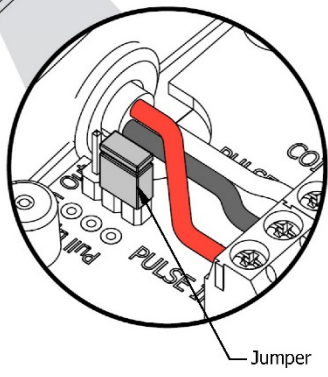

Figure 4b
When the Jumper is located on the bottom two pins, the “internal resistor” option is selected (Figure 4b).
- Use Scaled Pulse Output Module's Internal Pull-up Resistor Jumper Setting (Fig 4b).